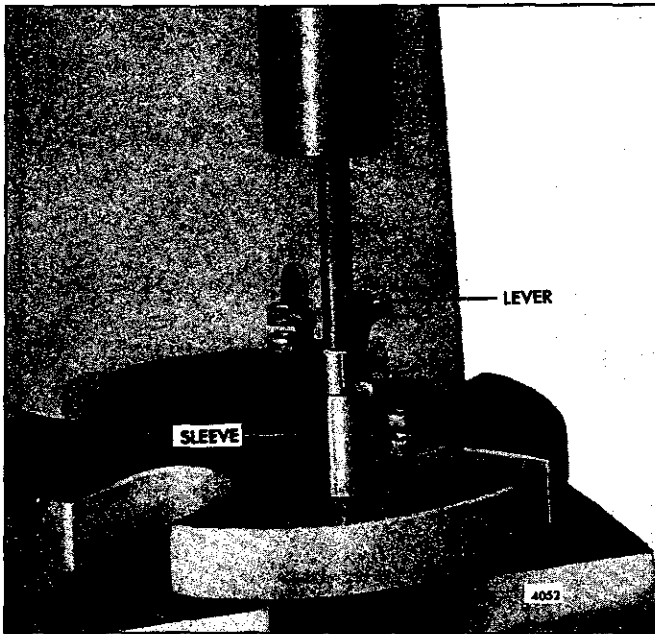

Fig. 8 - Removing Bearings from Control Link Lever
3. If the bearings require replacement, support the control link lever on a sleeve placed on the bed of an arbor press. Then, press the bearings out of the lever with tool J 8985 (Fig. 8).